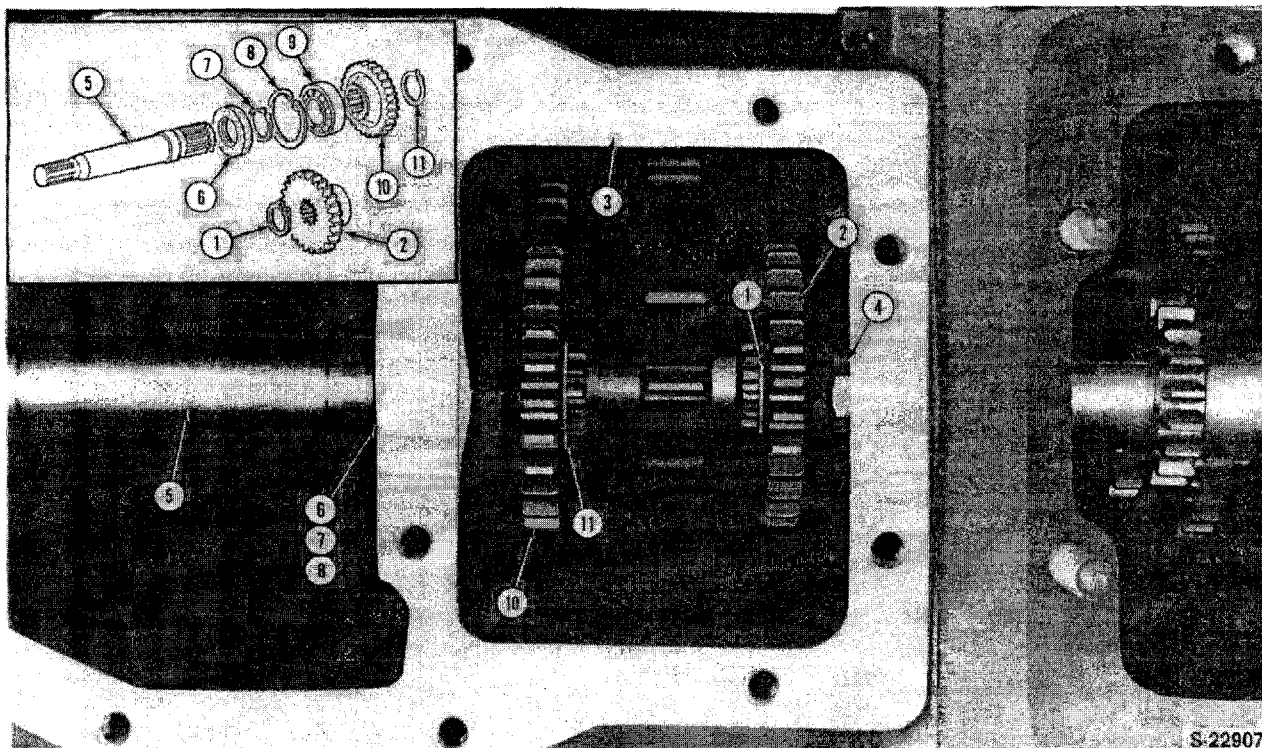

Figure 90
Reference — Figure 90
1. Remove snap ring (1) and fixed gears (2) from the main shaft, Figure 90.
2. Remove the transmission to rear axle buckle-up bolts. Note that one buckle-up bolt (4), Figure 90, is located inside the case. Remove the transmission case from the rear axle center housing.
1. Remove the oil seal (6) from the front of the case, Figure 90.
2. Remove the snap ring (11) and gear (10), Figure 90.
2. Install the fixed gear (2) and snap ring (1) on the front end, Figure 90.